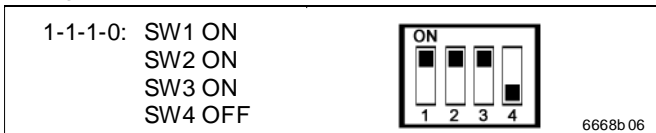

Fig. 22 DIP switch – configuration mode
- Set the DIP switches 12 (see view Fig. 2) as shown in Fig. 22: